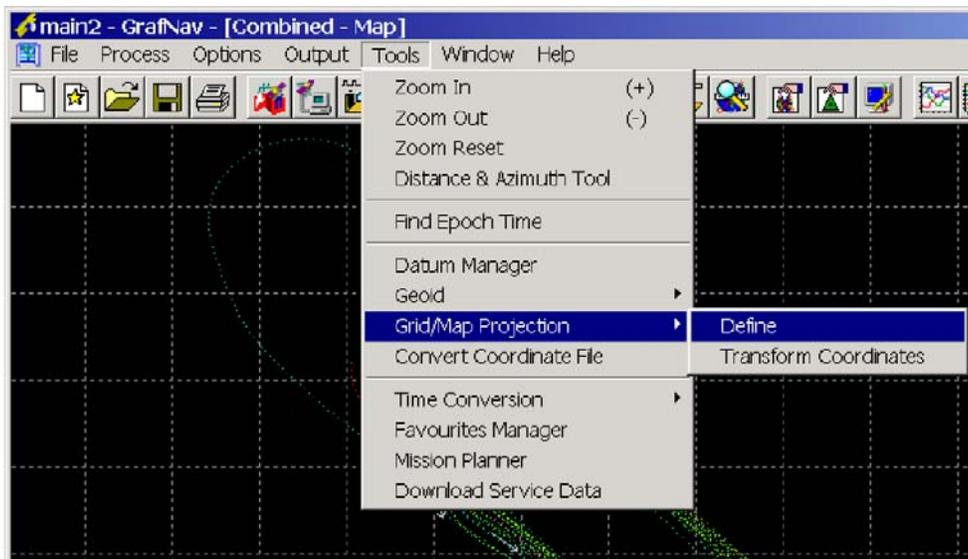

Figure 10.7 Tools Menu
- 1) First we need to define the transformation. This can be done under the 'Tools' menu, select 'Grid/Map Projection' and then 'Define', refer to Figure 10.7.